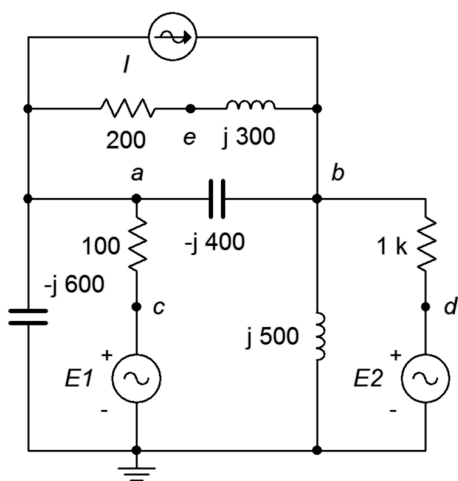

Figure 5.46
81. Use any method or combination of methods in the circuit of Figure 5.46 to determine v_{ad} . $E1 = 90\angle 0^\circ$, $E2 = 120\angle 0^\circ$ and $I = 400E-3\angle 180^\circ$.